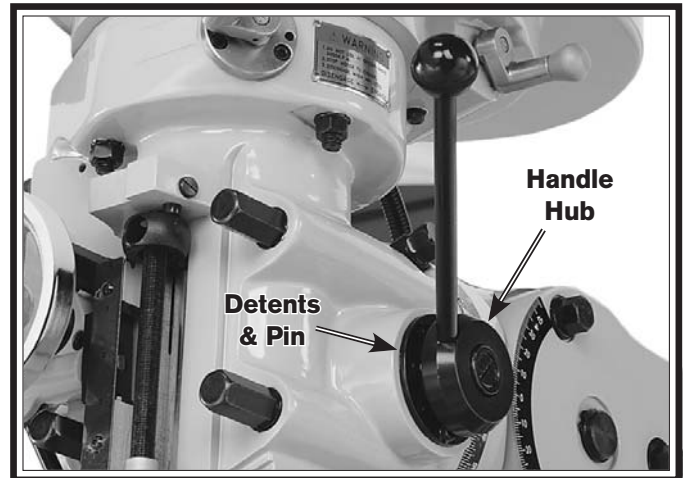

Figure 38. Coarse downfeed handle hub, detents, and pin.
4. Make sure the pin of the coarse downfeed handle hub is engaged with one of the detents on the downfeed sleeve (see **Figure 38**).